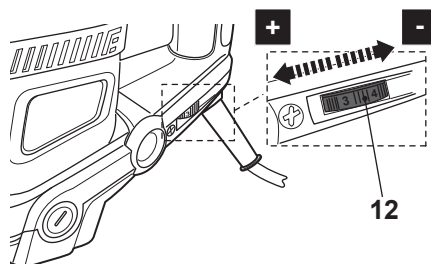

Fig. 7
- > Turn the speed dial (12) left to increase the maximum speed (Fig. 7).
- > Turn the speed dial (12) right to decrease the maximum speed (Fig. 7).